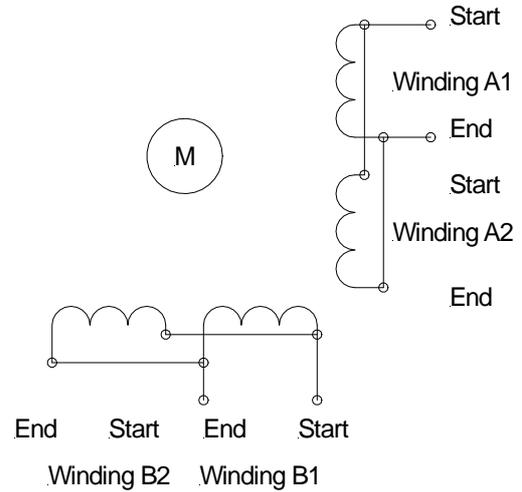

Figure 9. 8-wire motor, parallel connection
- Connect each pair of windings in parallel (this effectively turns the motor into a 4-wire motor) as illustrated in Figure 9;